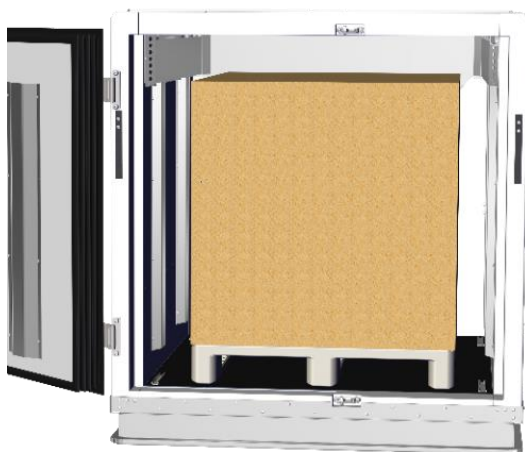

Figure 18 – Pallet loaded in the container.
- Ensure the load is centered inside the container (Figure 18).